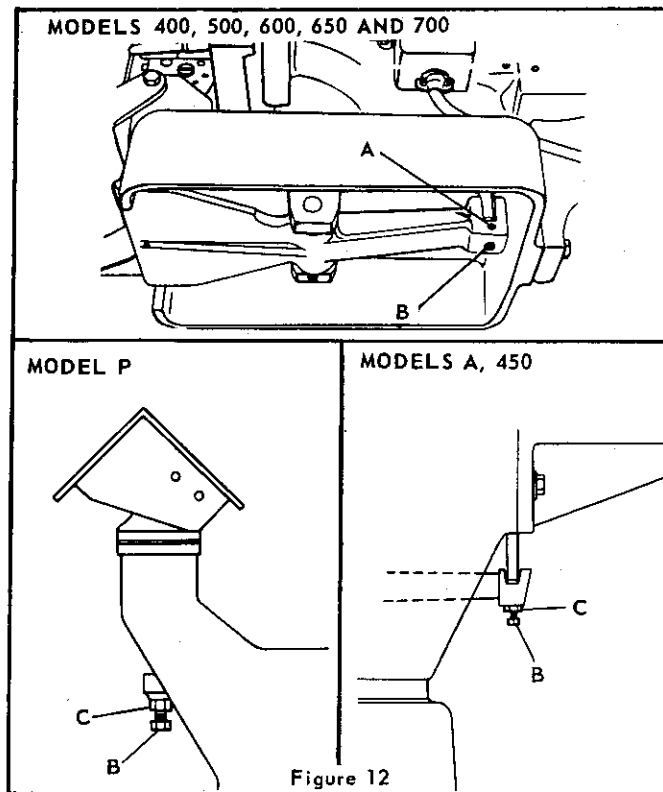

Figure 12
**To adjust clincher height: (Figure 12)**